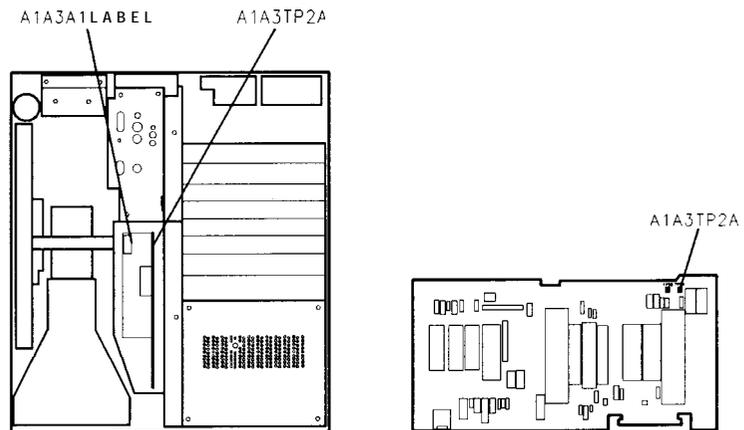

Figure 3-14. Location of A1A3 Label and Test Point
11. Remove the protective cover from the A1A3 High-Voltage Regulator Assembly. A label should be visible on the A1A3A1 High Voltage Assembly. (A1A3A1 is mounted on the non-component side of the High-Voltage Regulator Assembly as shown in Figure 3-14.) Record the voltage listed on the label for use in step 15. In cases where more than one voltage is listed on this label, record the value which is closest to -2400 Vdc.
12. Connect the high-voltage probe to A1A3TP2A. See Figure 3-14 for the location of the test point.